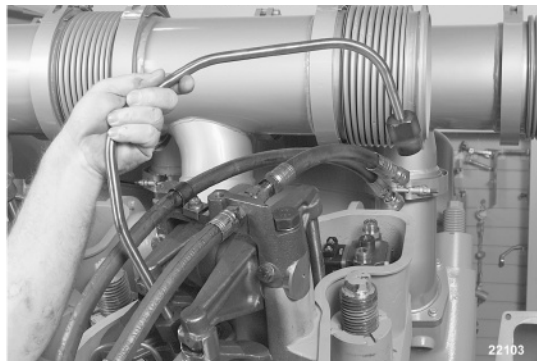

Figure 7.9 *High Pressure Fuel Line Removal.*
5. Disconnect high pressure fuel line from pump and nozzle; remove line. (*figure 7.9*)